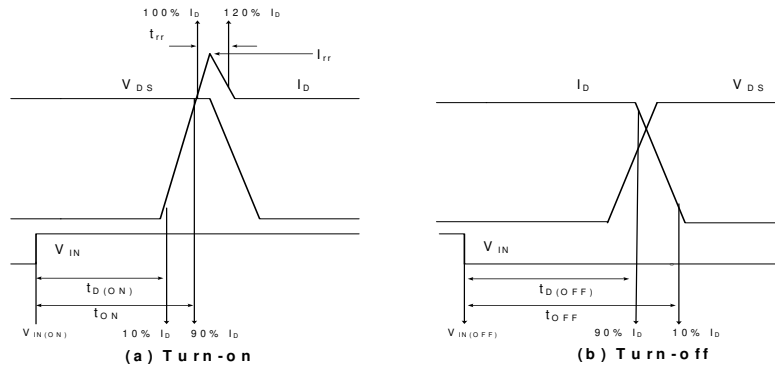
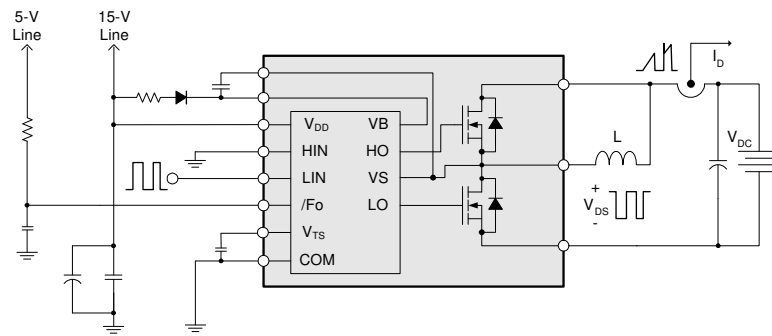

Figure 3. Switching Time Definition
Figure 4. Switching Test Circuit (Low-side)
- $t_{ON}$  and  $t_{OFF}$  include the propagation delay of the internal drive IC. Listed values are measured at the laboratory test condition, and they can be different according to the field applications due to the effect of different printed circuit boards and wirings. Please see Figure 3 for the switching time definition with the switching test circuit of Figure 4.